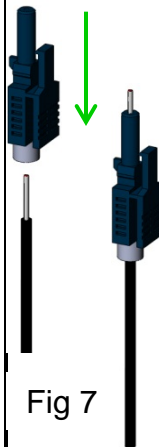

Fig 7
8.Slide the fiber into the VL connector housing so it bottoms out in the connector(Figure 7).